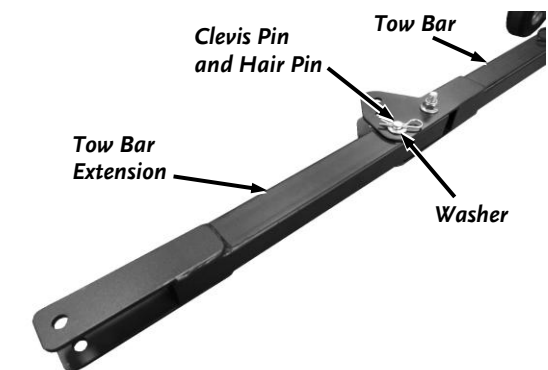

Figure 19
3. Align the Tow Bar Extension with the Tow Bar and install a Clevis Pin, Washer, and Hair Pin in the Tow Bar to lock the Tow Bar Extension in place (**Figure 19**).